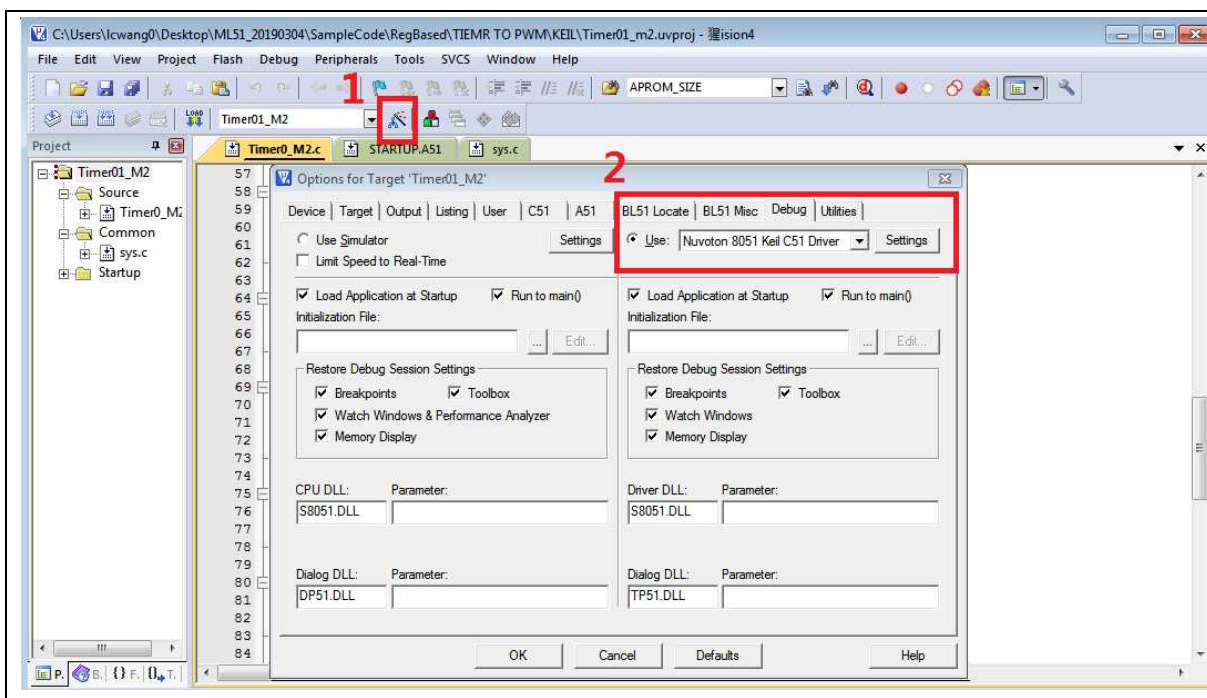
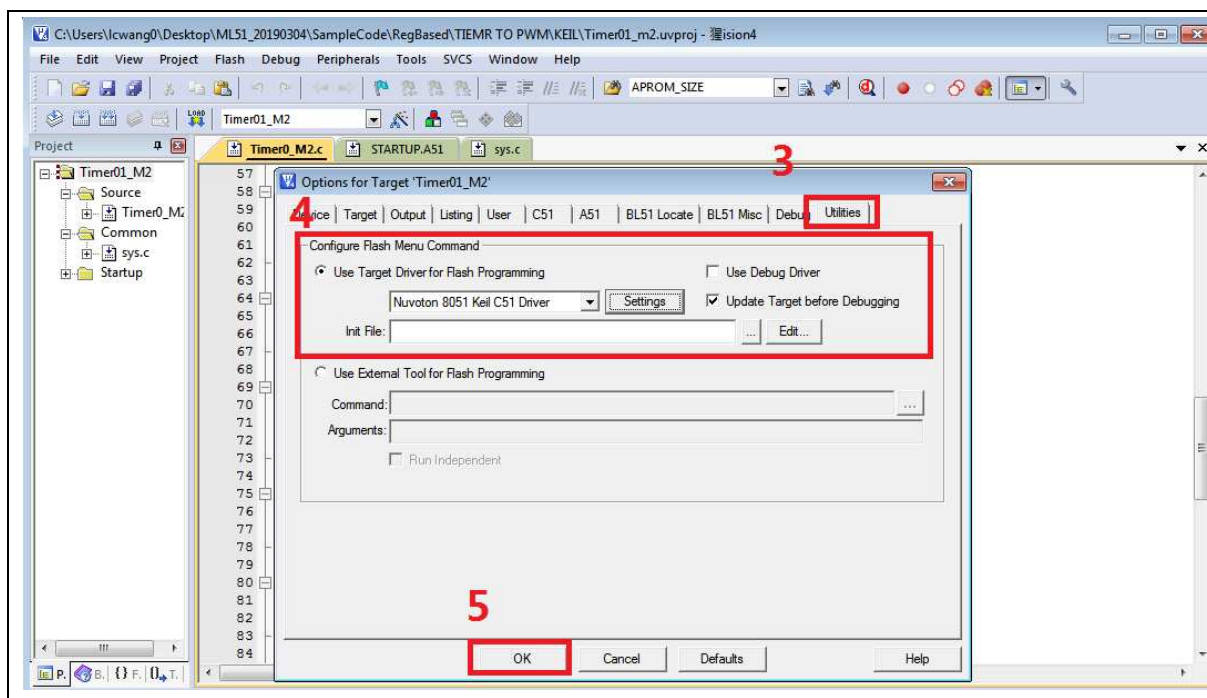

Figure 3.6-2 Debugger Setting in Options Window
Figure 3.6-3 Programming Setting in Options Window
1. Make sure the debugger is “Nuvoton Nu-Link Debugger” as shown in Figure 3.6-2 and Figure 3.6-3.
**Note:** If the dropdown menu in Figure 3.6-2 does not contain “Nuvoton Nu-Link Debugger” item, please rework section 3.6.1.